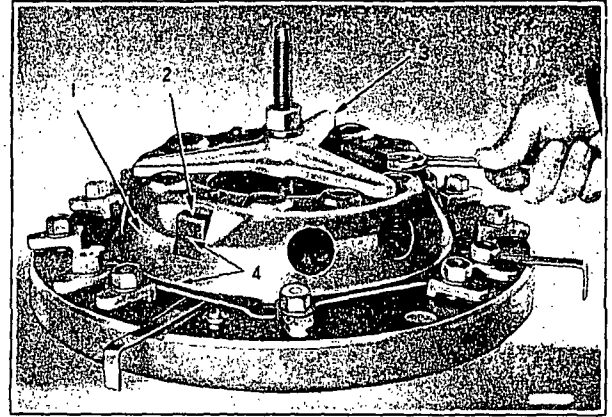

Fig. 92 Clutch Cover and Pressure Plate Assembly in Fixture.
1. Mark the cover and pressure plate with a prick punch (4, Figure 92) so that they may be assembled in their original position to maintain balance.
4. Install the plain thrust washer and the hexagonal compression nut and compress the springs by turning down the compression nut (Fig. 92).